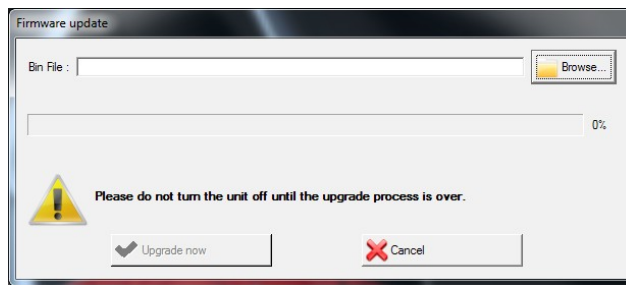

Figure 20: Firmware Update Window
- Select the firmware file (e.g., “DIMENSION_3D_1.8.0bin”) and click on the “Upgrade now” button (Figure 20).